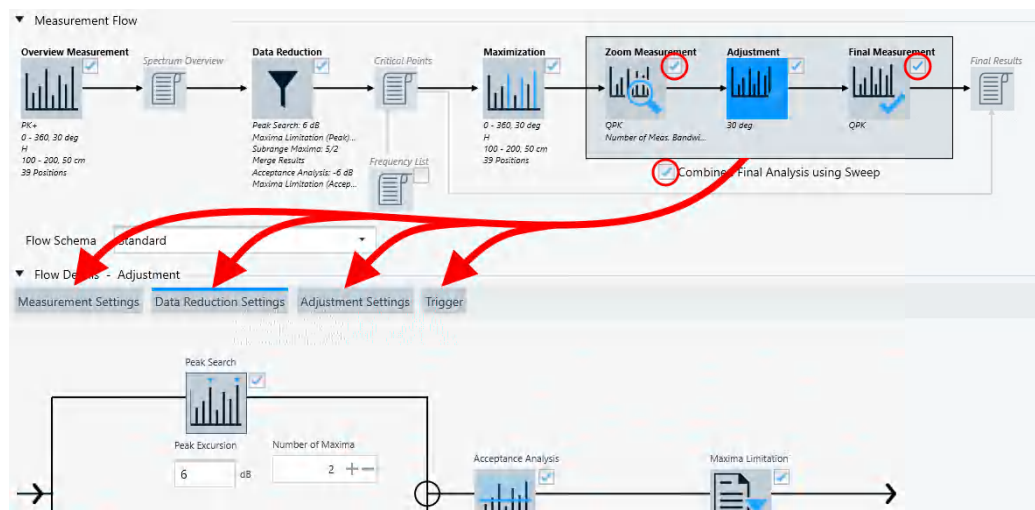

Figure 4-65: The icon for Combined Final Analysis using Sweep gives access to various settings in the Flow Details
- Both the Zoom Measurement and the Final Measurement are enabled, as indicated by the red circles in Figure 4-65